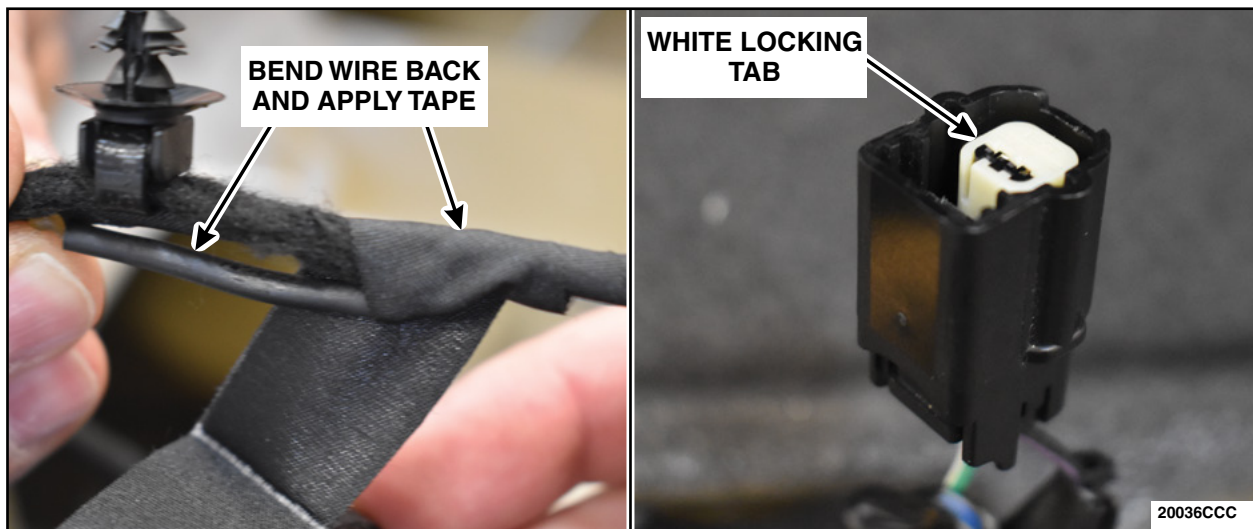

FIGURE 57
77. Bend back the sealed wire and secure using Coroplast® 837 or Equivalent Electrical Wire Harness Tape. Install the white locking tab. See Figure 57.